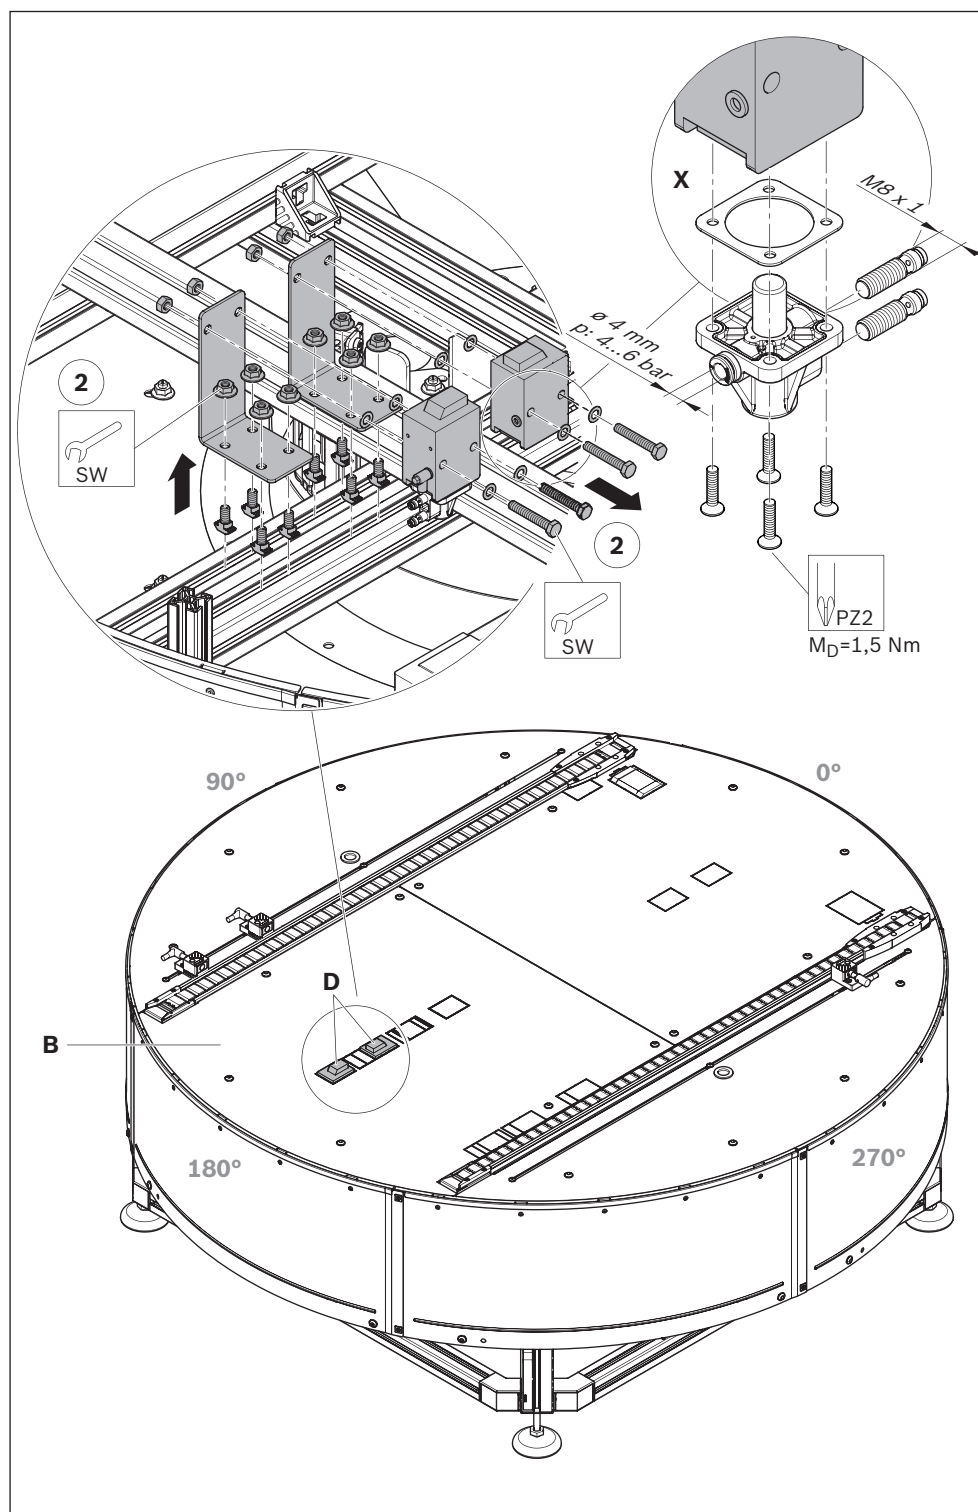

Fig. 19: Assembling the stop gates for end position and workpiece pallet locking (illustrated: DE 2 - BG 3, with BS 2/R belt section for WT 2-H / .../F-H)
- For assembly of the VE 2/... position sensor, see detail X Fig. 19